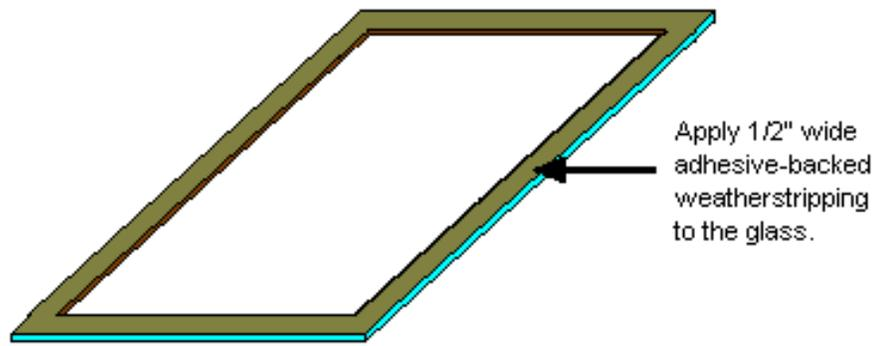

Figure 10. Apply weatherstripping to the edges of the piece of glass.
2. Once you have checked that the that the piece of glass is the right size, apply the 1/2" wide adhesive-backed foam weatherstripping. Place it along the four edges on one side of the glass where the glass rests on the top edge of the inner box bottom, as shown in Figure 10. The weatherstripping seals the gap between the inner box bottom and the glass and keeps the glass from sliding around. The weatherstripping also makes the glass easier to hold on to when lifting it off the inner box bottom so you can get your hot food out of the oven.